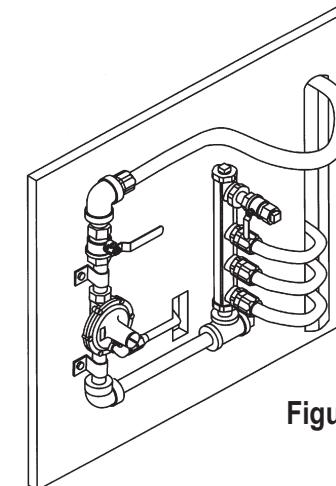

**Figure 4.33**
- A. Manifolds are used where multiple tubing runs are made from a common location forming a parallel system configuration. Manifolds may be a one piece unit manufactured from malleable iron or brass. They may also be constructed as a welded fabrication of steel and subcomponents and brass or malleable iron tee's connected with pipe nipples. See figures 4.33 and 4.34 below for examples of manifolds.